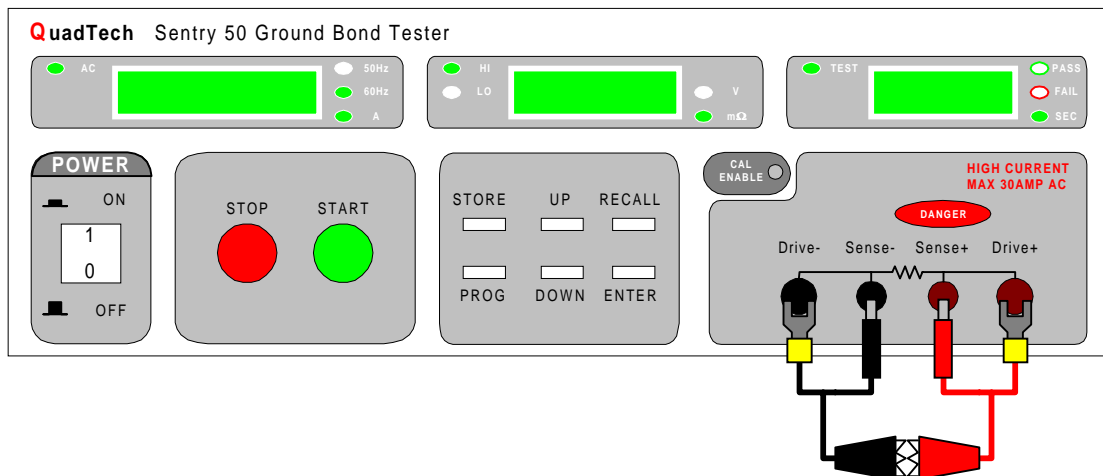

Figure 2-1: Connection for Offset Function
- Plug the G15 Lead Set (or other lead set/fixture) into the front panel Drive and Sense connectors as illustrated in Figure 2-1. Configure the leads or fixture for a short circuit (for G15 lead set, alligator clips shorted together) or (for G13, G14, G16, connect Sense + and Drive + leads to the power line ground pin of the power receptacle).